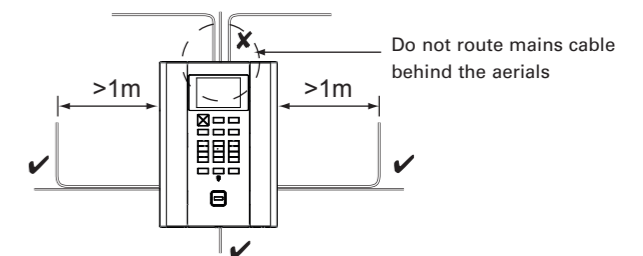
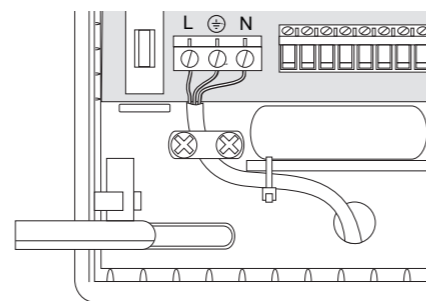

Figure 1. Mains cable routing
Figure 3. Mains connections
**WARNING:** When connected to the mains with power applied, mains voltages are present on the shrouded heads of the terminal screws of the mains connector and on the fuse holder connections (Figure 3).
- Mains cable must be kept separate and routed away from the aerials (Figure 1).
Connect the mains cable to the terminal block (Figure 3) and fit a strain-relief clamp and cable tie. Confirm the mains cable is routed as shown in Figure 1. Do not apply power until after the lid is re-fitted.